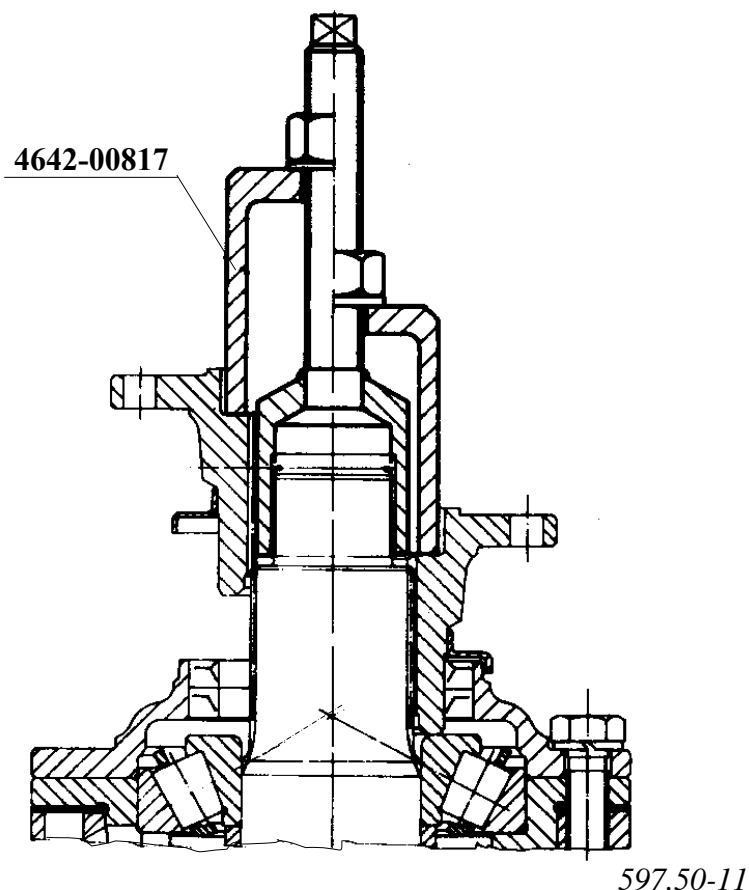

Fig. 6.: PRESSING ON THE COMPANION FLANGE
By means of the tool shown press the companion flange (3) to the drive pinon splines to bottom out (Fig. 6.).